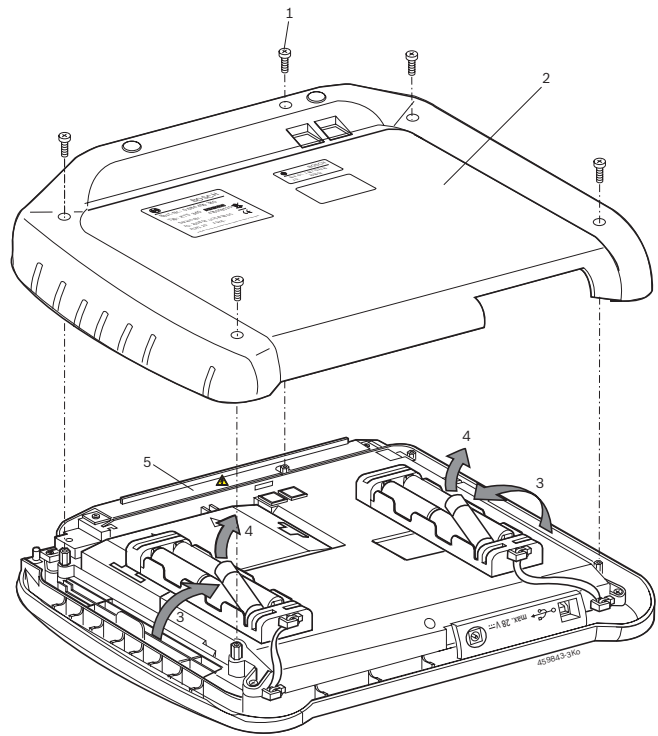

Fig. 4: Rechargeable battery replacement
If the KTS 340 is open and the cover (Fig. 4, Pos. 5) of the LCD background illumination has been removed, life-threatening high voltage may occur.
2. Slacken the screws (5x, Fig. 4, Pos. 1) on the back of the unit and detach the housing cover (Fig. 4, Pos. 2).
3. Take out the battery compartments on the left and right and set down on the metal housing (Fig. 4, Pos. 3).
4. Take out the old batteries (Fig. 4, Pos. 4).